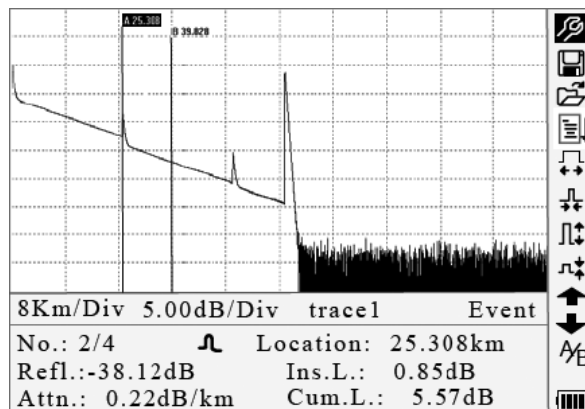
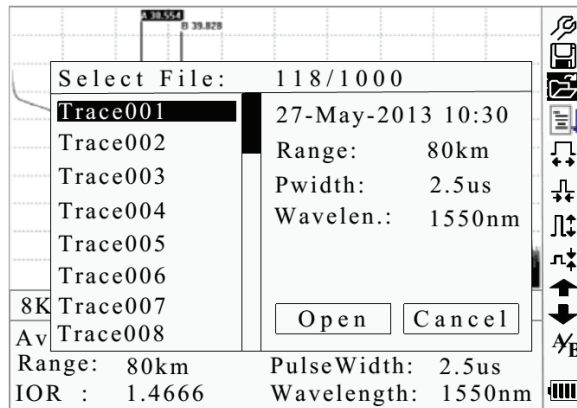

Figure 4-4. Trace Measurement
Figure 4-7. Browse Saved Traces
Note: After a certain period of time, the trace displays on the GUI. The trace in the figure below is a trace during measurement, which will be refreshed for every certain period of time to demonstrate the whole process in realtime. But at the end of measurement the trace will be complete, as shown in Figure 4-4.
Under GUI (Figure 4-4) press  and the items in the information window will display in this order: measurement parameters → analysis information → events list → marker A/B information → fiber information → measurement parameters.
Under GUI (Figure 4-4) press  until the events list information appears in the information window.
Under GUI (Figure 4-4) use  and  to highlight ^A/_B, and then press Enter to switch between marker A/B.
Under GUI (Figure 4-4) press **↶** to switch information window to marker A/B information.
1. Under GUI (Figure 4-4) use **▲** and **▼** to highlight **↔**, and then press Enter to zoom out the trace horizontally.
Under GUI (Figure 4-4) use **▲** and **▼** to highlight **↔**, and then press Enter to zoom out the trace vertically.
1. Under GUI (Figure 4-4) use **▲** and **▼** to highlight **↕**, and then press Enter to zoom out the trace vertically.
Under GUI (Figure 4-4) use **▲** and **▼** to highlight **↕**, and then press Enter to zoom in the trace vertically.
1. Under GUI (Figure 4-4) use **▲** and **▼** to highlight **💾**, and then press Enter to enter (Figure 4-6).
1. Under GUI (Figure 4-4) use ▲ and ▼ to highlight , and then press Enter to confirm (Figure 4-7).